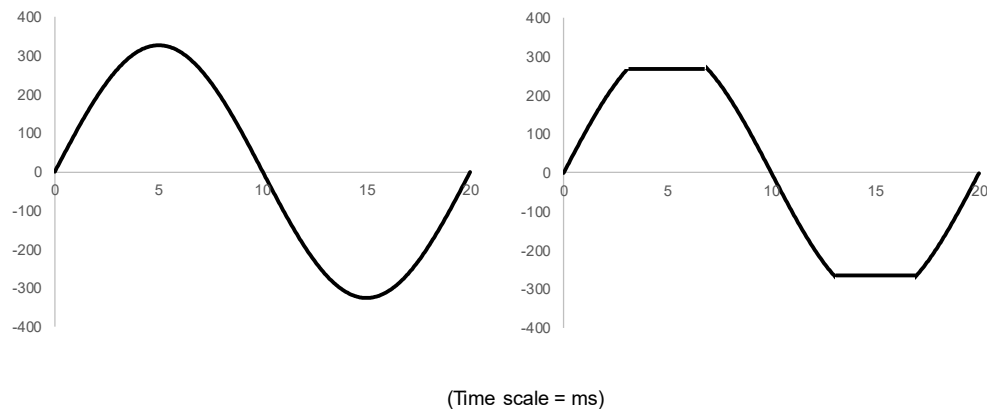

Figure Q2c: Ideal (left) and distorted (right) supply voltages
- Q2d** Sketch a thyristor rectifier circuit that is supplied from the left-hand waveform in Figure Q2c and used to vary the voltage applied to a load. Explain how it works and discuss its attributes and drawbacks.